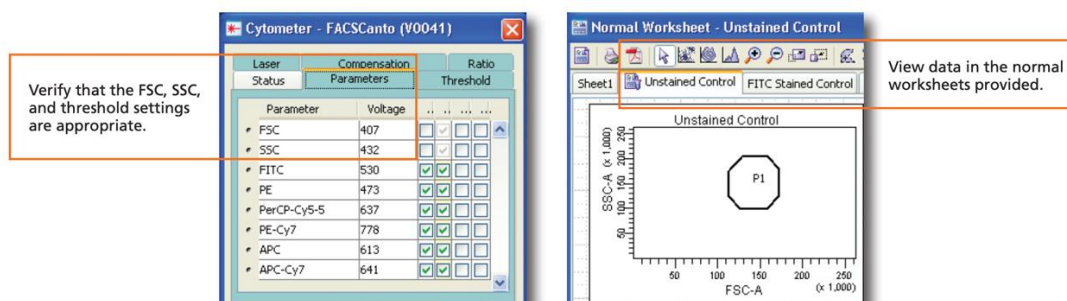

Figure 9 - Creating Compensation Controls in FACSDiva
- To perform automatic compensation, select **Experiment > Compensation Setup > Create Compensation Controls**. FACSDiva will create a new specimen with tubes for each control (Unstained and Single-Colours) and a corresponding Normal Worksheet for each tube (see Figure 9).